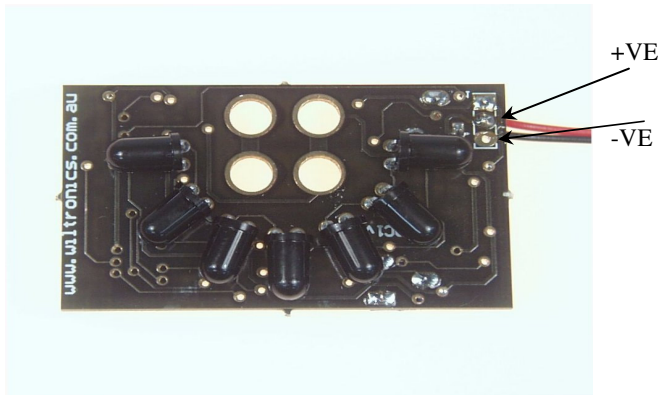

Fig. 3
3.1. There are seven photodiodes (see Fig 3) on the underside of the **RoboBall™ FlyEye** and these look in different directions. A microcontroller, built into the **RoboBall™ FlyEye**, compares the light intensity seen by each of the seven photodiodes and picks the brightest one. The **RoboBall™ FlyEye** can send 16 different voltage levels to your robot. On an RCX* port in 'raw' mode these correspond roughly to values starting at 250 and increasing in steps of 45, i.e. 250, 295, 340, 385, 430, 475, 520, 565, 610, 655, 700, 745, 790, 835, 880 & 925. (See the 3 -wire interface section for the actual voltage levels) Note these values are approximate and will depend on the exact setting of VR1 (see the adjustments section), there will also be some variation in the values during normal operation and your program must be written to deal with this. The lowest 7 values (250 - 520) are used to indicate which photodiode is seeing the brightest light. So a value of 250 indicates the brightest light is seen by the far left photodiode, a value of 385 indicates straight ahead and a value of 520 is far right. The highest nine values (565 - 925) are used to indicate the intensity of the light seen by the brightest photodiode. See the 'adjustments' section for more information on the intensity values.